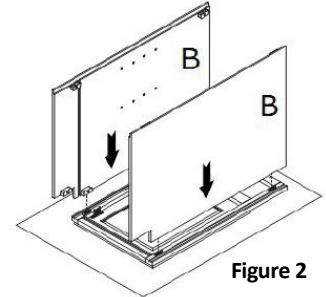

Figure 2
2. Installing the Side Panels (Figure 2): Insert right and left side panels (B) into the grooves of the face frame (A) and align the cam lock connectors (Figure 2). Lock the cam with a screwdriver by turning the screw 180° clockwise. (Figure 4).